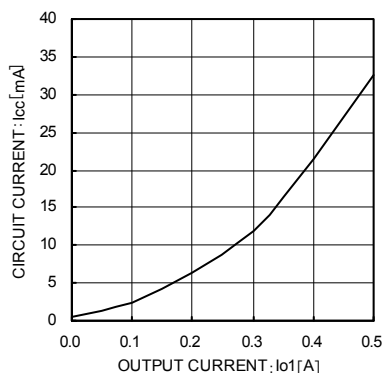

Fig. 14 Circuit Current vs Load Current I_{o1} (I_{o1} = 0 → 500 mA)
• Power consumption due to circuit current: $P_{c3} = V_{cc} \times I_{cc} = 5 \times 0.0085 = 0.0425 (W)$ (See Figs. 14 and 15)